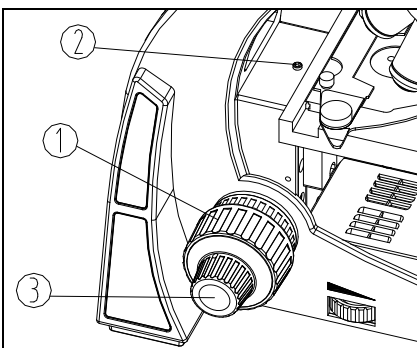

Fig.10
2. Observe the right eyepiece with the right eye. Rotate the coarse focusing knob ① until the image outline appears in the view field (See Fig.10).
3. Rotate the fine focusing knob ③ for clear details.
- ★The lock screw ② can prevent the objective touching the slice when focusing.